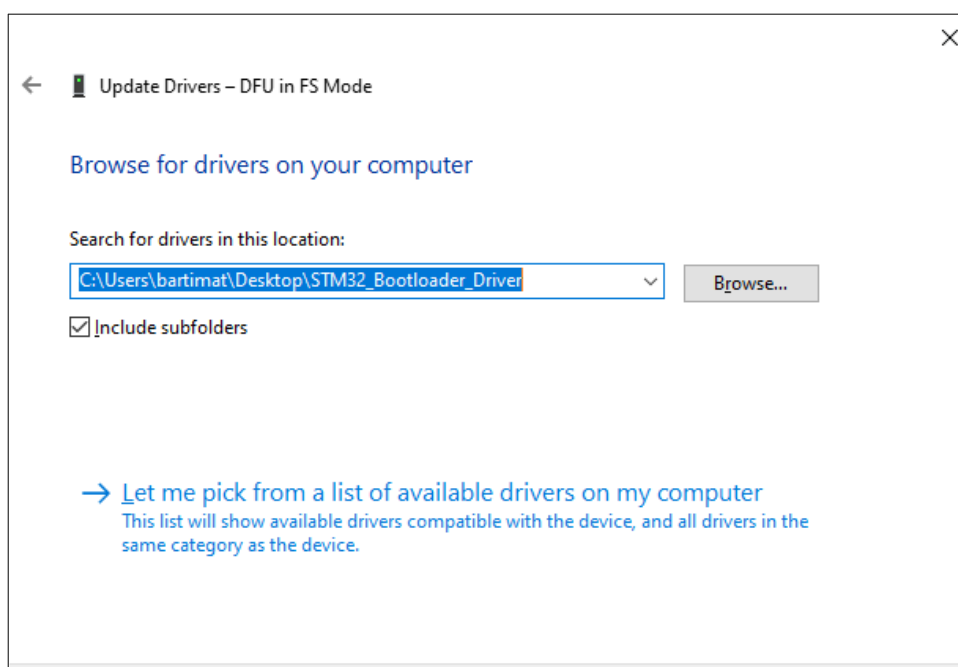

Figure 23: Locate the provided “STM32_Bootloader_Driver” directory.
- 4 Browse for the "STM32_Bootloader_Driver" directory (have the option "Include sub-folders" checked (see Fig. 23) and press Next).